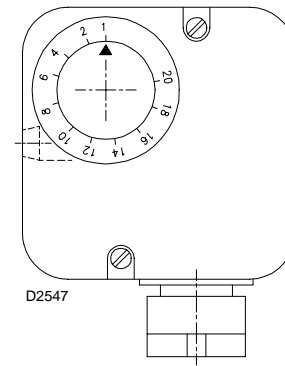

Fig. 39
- Adjust the low gas pressure switch to the start of the scale (Fig. 39).
Adjust the low gas pressure switch after having performed all the other burner adjustments with the pressure switch set at the start of the scale (Fig. 39).